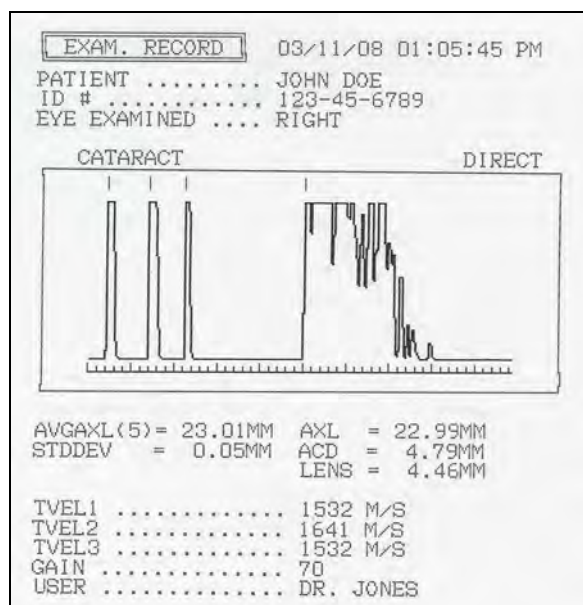

Figure 3-15 Measurement Exam Record
- The examination record organizes data and information into formats as shown in Figures 3-15 and 3-16.